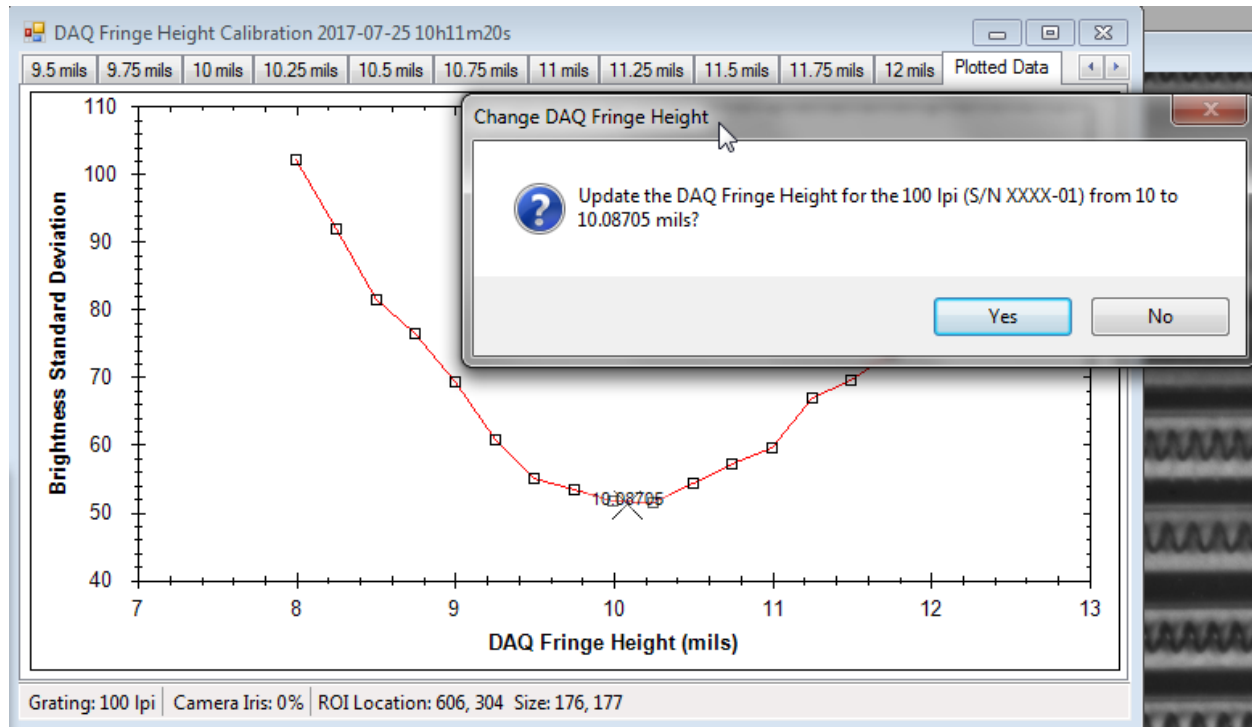

Figure 2.30 DAQ Fringe Height Cal Dialog
3. Right click to select **Start Calibration...** from the Camera window context menu. A series of images is taken with different step heights to determine the best calibrated phase step distance, or **DAQ Fringe Height**. While the images are being taken a dialog (see **Figure 2.30**) pops up showing the captured images and a plot of the intensity standard deviation for each step height trial.